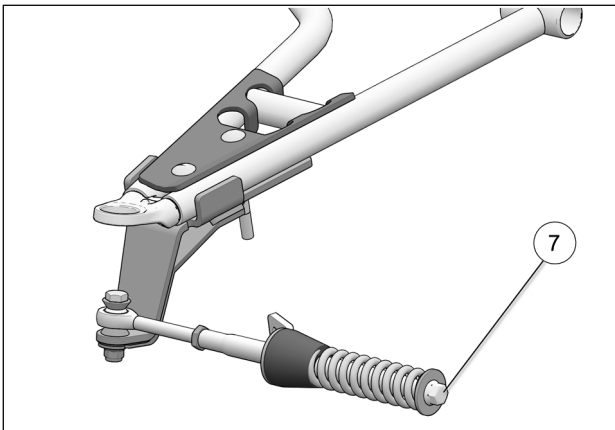

Fig. 19
- Verify that spring assembly bolt (7) is tightened to the recommended torque specification: 75 N•m [55 lb•ft]. Refer to Fig. 19